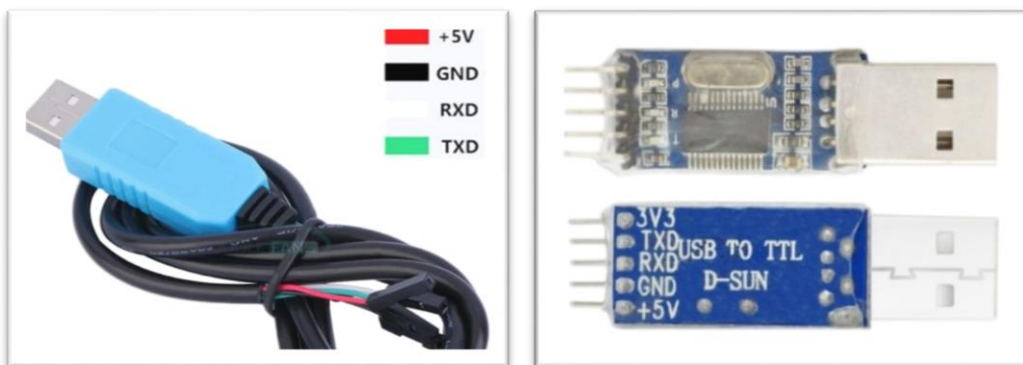

Figure 4
- i. For debugging purposes, you are given a USB-UART cable or a USB-to-TTL module to connect the BT module to a PC. See **Figure 4**.